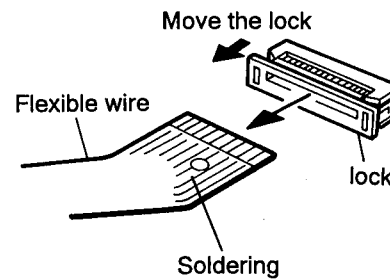

Fig. 2-11
6. Disconnect the flexible wire connected to the connector on the CD mechanism control P. C. board (See Fig. 2-11).
CAUTION: Whenever the flexible wire is disconnected, be sure to remove the soldering in advance as shown in Fig. 2-11. Otherwise, the CD mechanism assembly can possibly be damaged.